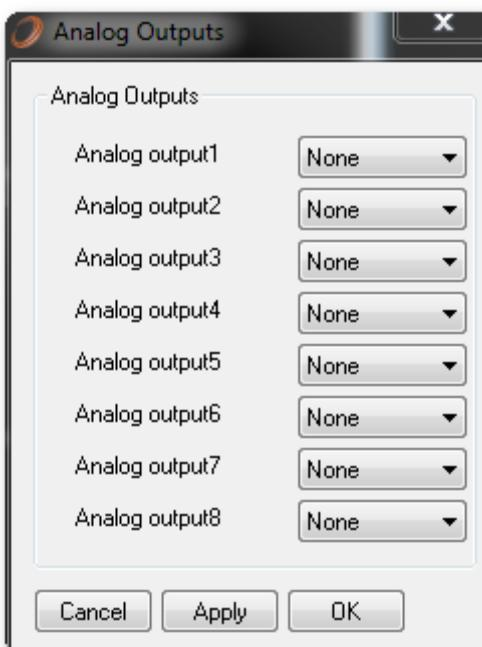

Figure 131: Analog Outputs Dialog Box
The **Analog Outputs** dialog box appears (*Figure 131*).
- The **Analog Outputs** dialog box appears (see *Figure 131*).